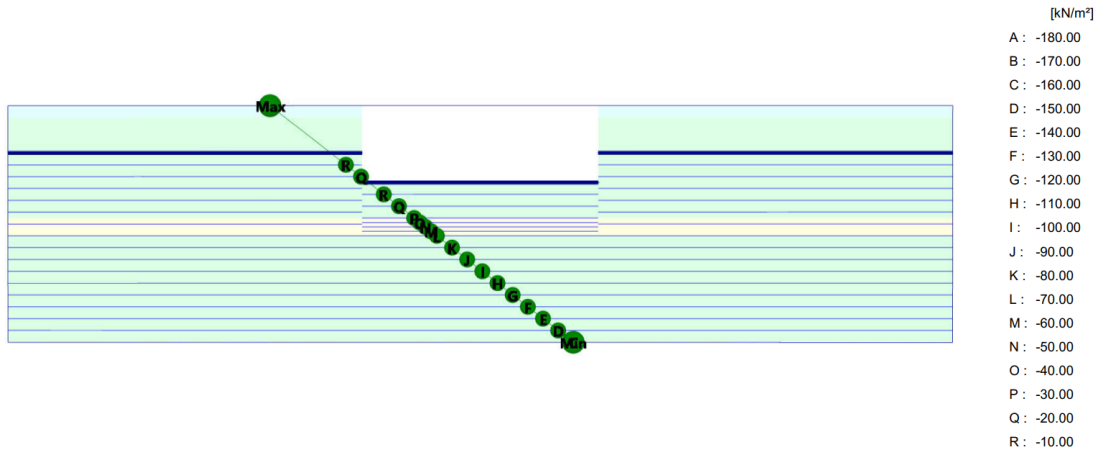

Figure 35: Preview of the steady state pore pressures in Phase\_4 in a cross section
26.  Display the contour lines for steady pore pressure distribution. Make sure that the **Legend > View** option is checked. The steady state pore pressure distribution is displayed in Figure 35 (on page 54). Scroll the wheel button of the mouse to zoom in or out to get a better view.